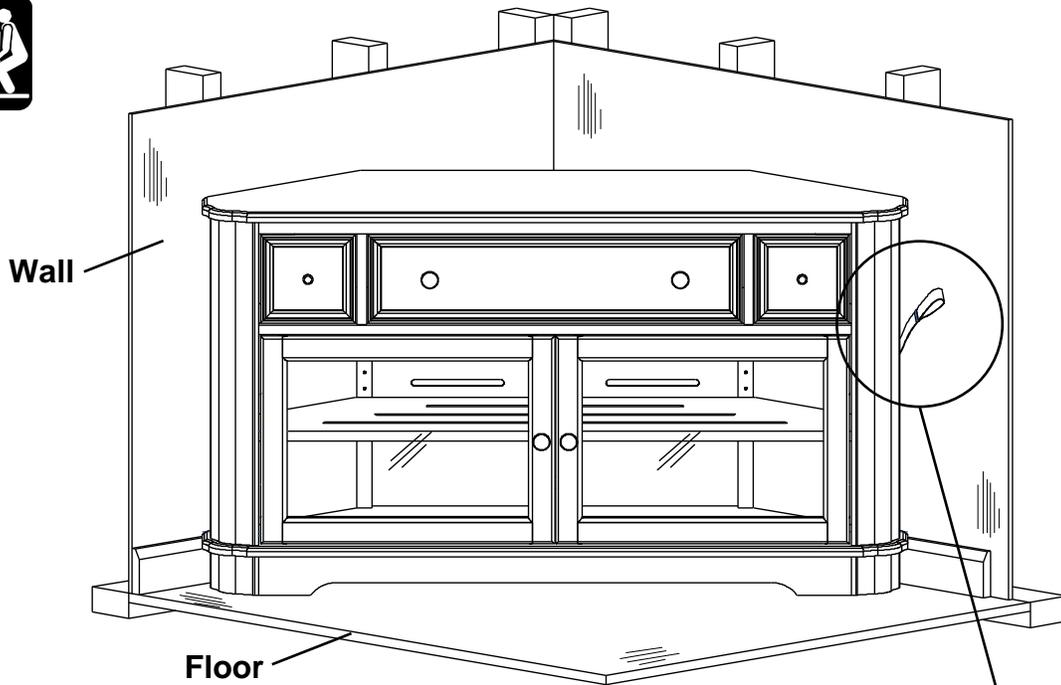

Fig. 4
4. Move the item back into position against the wall and reach behind the piece of furniture to grasp the loop in the free end of the strap. Pull the free end of the strap until portion between the Cam Buckle (A) and the back apron of the item is tight. See Figures 4 and 4a. If you need to move the piece of furniture reach behind and locate the buckle which connects the two sections of the strap and depress the release lever, then pull on the section of strap that is between the buckle and the back apron of the furniture until there is enough slack to allow you to pull the item away from the wall.